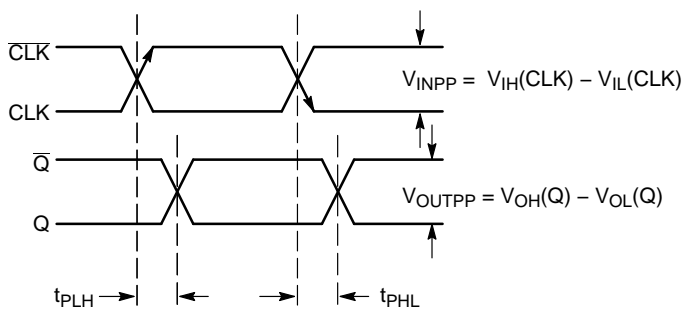

Figure 9. AC Reference Measurement
24. See Figure 9. $t_{\text{SKEW}} = |t_{\text{PLH}} - t_{\text{PHL}}|$ for a nominal 50% Differential Clock Input Waveform.